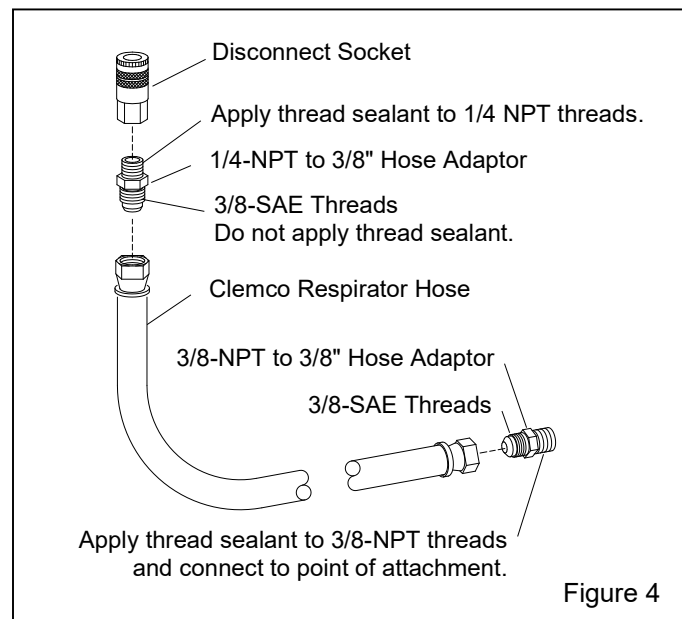

Figure 4
3.4.2 Refer to Figure 4 to attach the hose adaptor to the disconnect socket. To provide an airtight friction-free